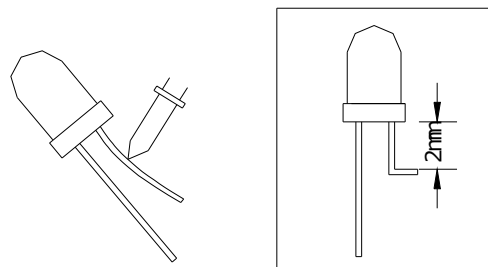

Fig. 7
- ① The lead should be bent at a point located at least 2mm away from the package. Bending should be performed with base fixed means of a jig or pliers (Fig.7)